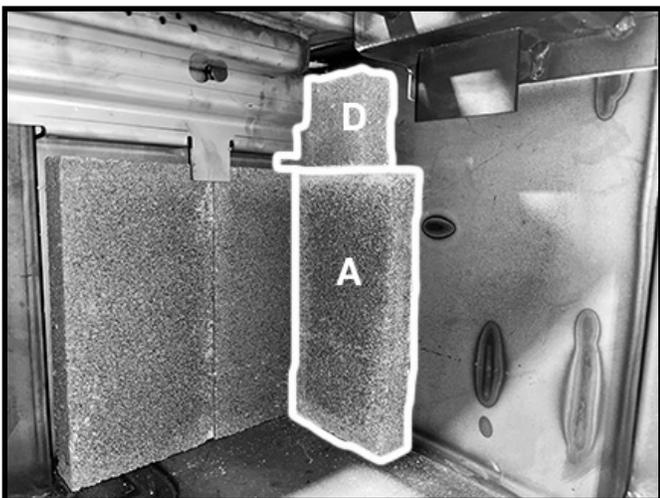

Figure 26: 1st side wall bricks in place.
3. For the side walls: Slide a "D" firebrick up into the back corner of the firebox then, while holding it in place, stand an "A" firebrick against the side wall under the "D" firebrick and up against the rear wall firebrick (Figure 26).